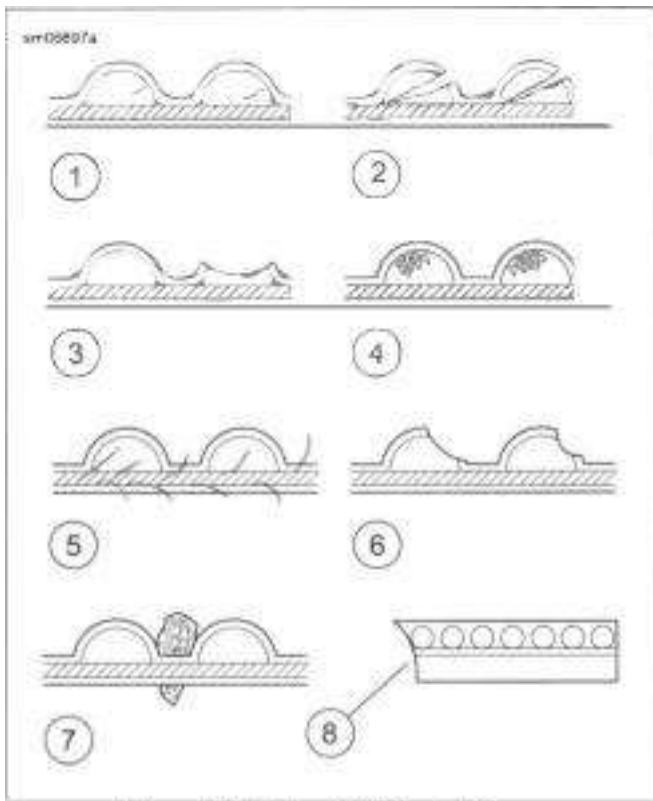

Figure 2-33. Drive Belt Wear Patterns
- See Figure 2-33 and Refer to Table 2-11. Inspect drive belt for:
- Outside bevel wear (8). Some beveling is common, but it indicates that sprockets are misaligned
- Outside ribbed surface for signs of stone damage (7). If cracks or other damage exists near edge of belt, replace belt immediately. Damage to center of belt eventually requires belt replacement. However, when cracks extend to edge of belt, failure is imminent